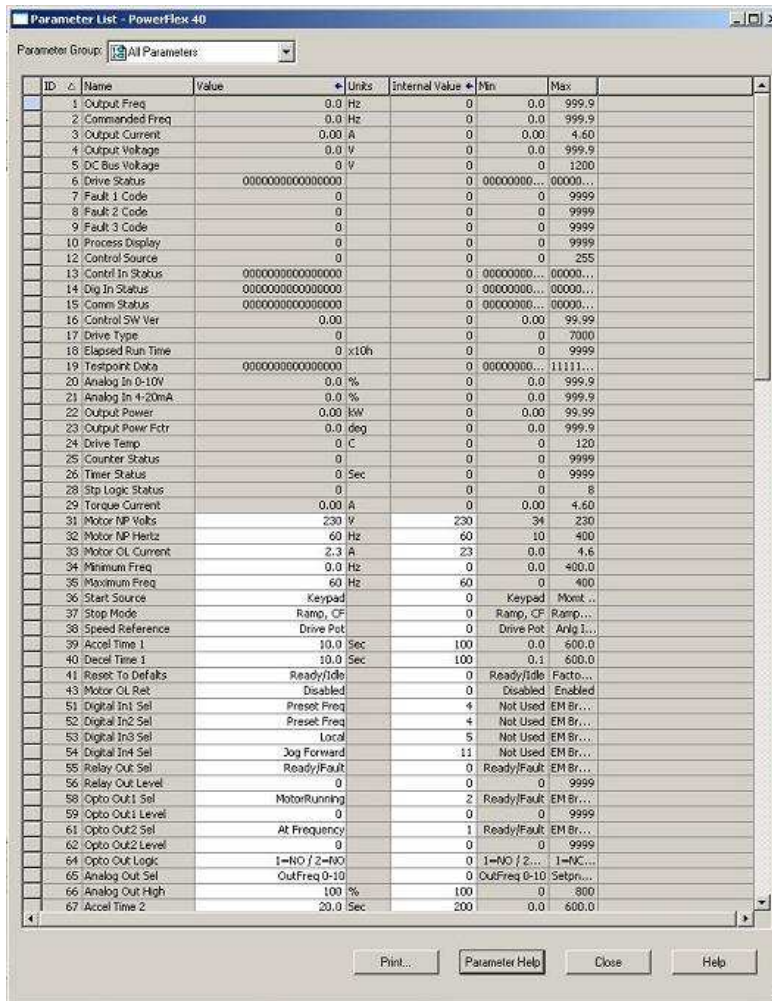

Fig. 25. The Parameter List window.
- 3) Select **Parameter list** from the menu PowerFlex 40, the parameter window is presented in Fig. 25.